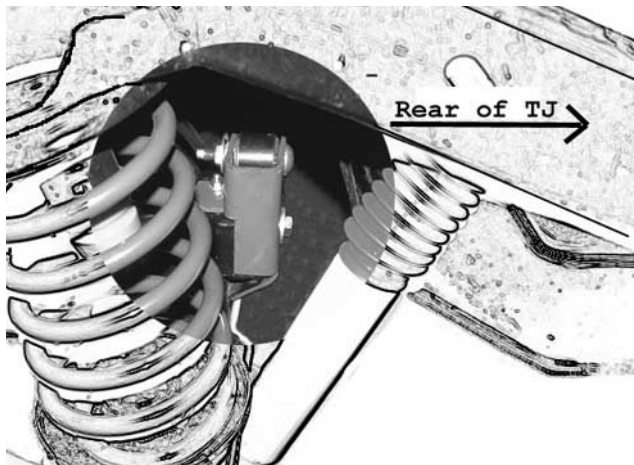

Figure 1
10. Hold the rear track bar bracket extension over the axle bracket positioned as show in Figure 1. Using one of the bolts (1/2" x 3" nc) and the spacer (1.5" x 1"OD x .5"ID) insert them in the hole vacated by the Torx headed bolt. Use the spacer to fill the spot the track bar once occupied. This will keep the bracket from collapsing when the new bolt is tightened.
11. With the track bar bracket in place, the two (2) smaller holes in the bracket should line up close to the holes in the axle bracket vacated by the plastic shield removed in Step 8.